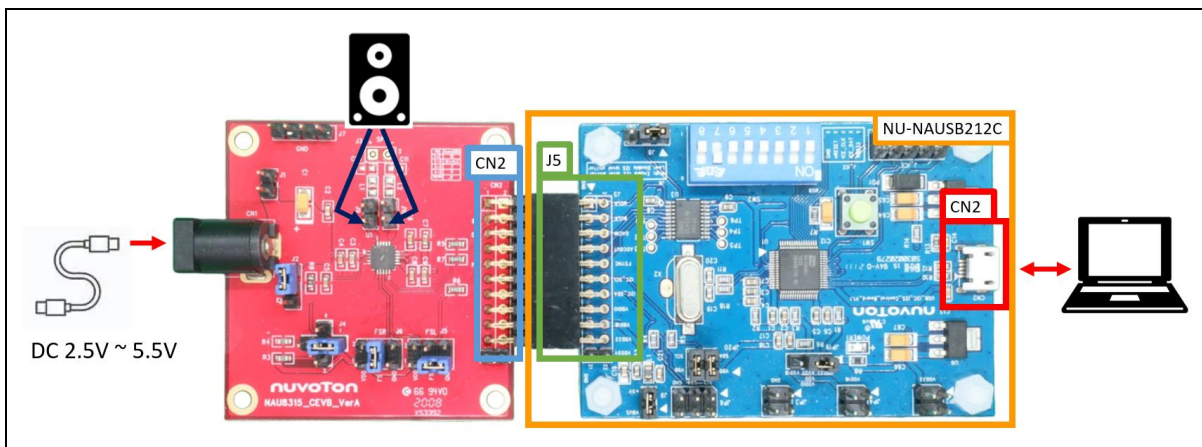

Figure 2-4 NU-NAUSB2I2C Connection
2. Connect J5 of NU-NAUSB2I2C to CN2 of NL-NAU8315. Figure 2-4 is the diagram after two boards are connected to each other.